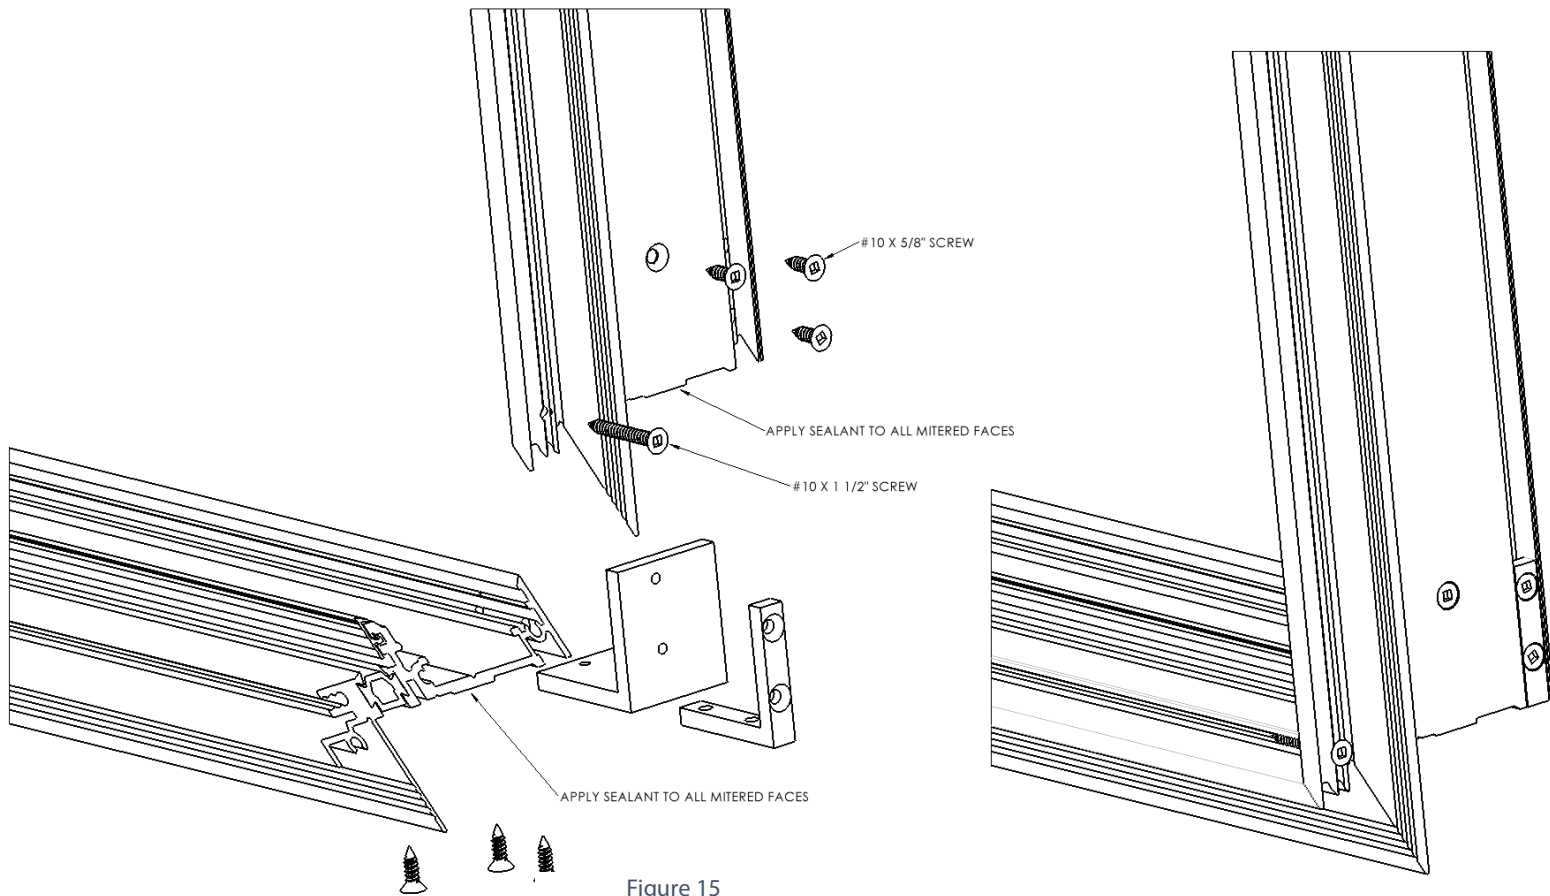

Figure 15
7. Assemble the corners of the perimeter frame using the two keys and #10x5/8" screws. Apply a generous coat of Dow 795 sealant or equivalent to each mitered face. For perimeter frames with a nail fin, an additional screw will be used on the outer corner. See figure 15.